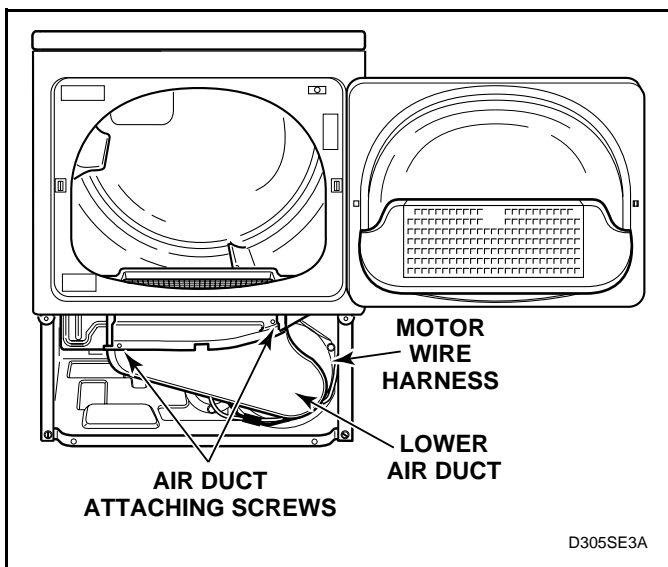
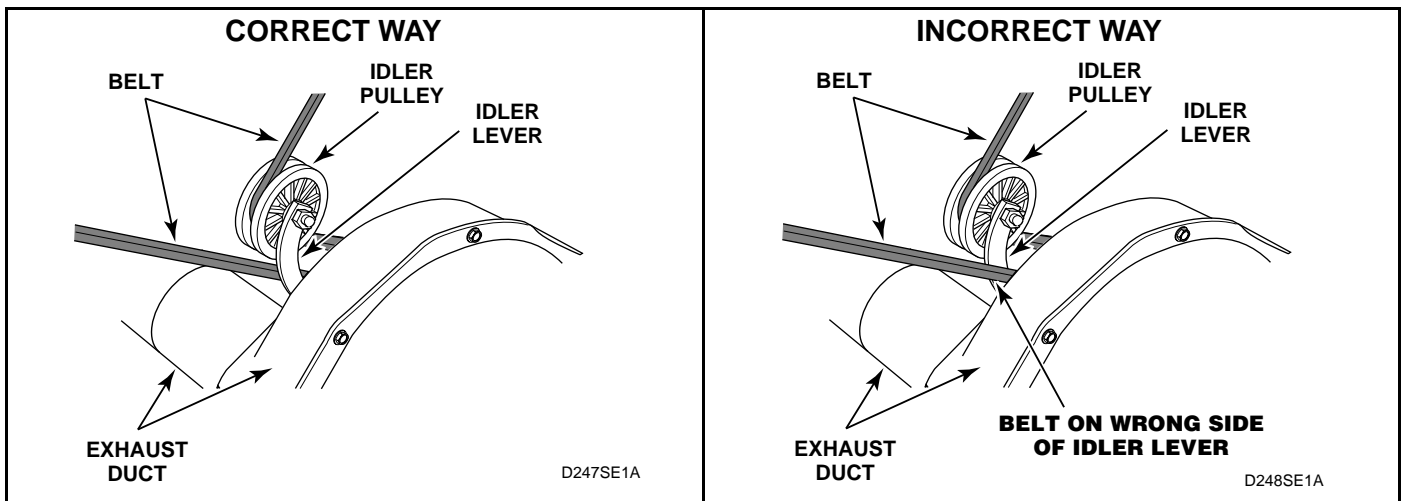

Figure 39
Figure 41
- (3) Remove three screws holding lower duct to upper duct and remove lower air duct. See *Figure 39*.
- Remove screws holding lower air duct to upper air duct and remove lower air duct. See *Figure 39*.
- Remove cylinder belt from idler and motor pulleys. See *Figure 41*.
**IMPORTANT:** When reinstalling motor and exhaust assembly, be sure wire harness on right side is clipped to motor mounting bracket and is routed along dryer base (between motor mounting bracket and right side of cabinet). See *Figure 39*. Tab on rear of motor mounting bracket must be slid into slot in dryer base. Be sure the belt has been installed on the correct side of the idler lever. See *Figure 41*.
- Disengage belt from motor and idler pulley. See *Figure 41*.